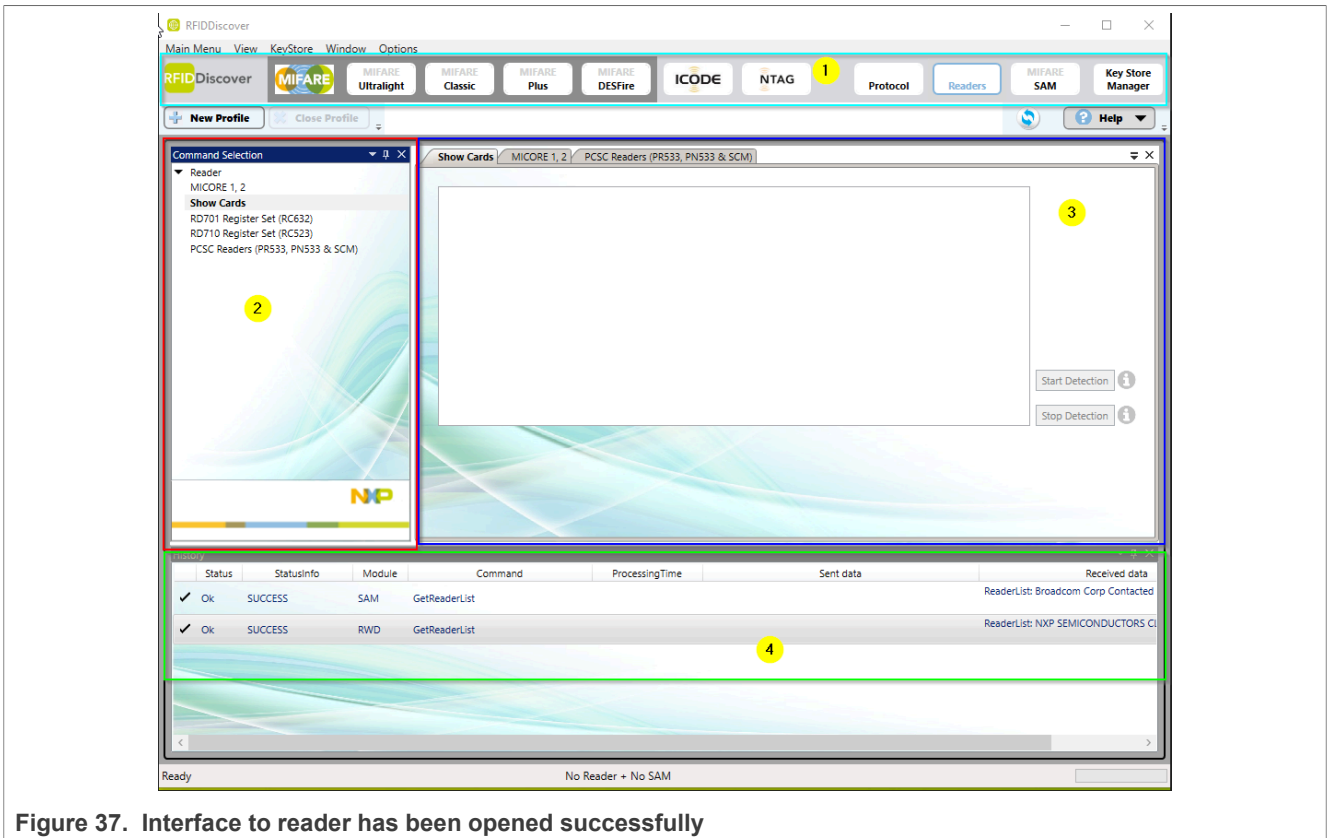

Figure 37. Interface to reader has been opened successfully
Therefore, the user interface is divided into functional blocks which are shown in different tabs in Figure 37 (1).
At the bottom (4) Figure 37 shows the history field where all the operations are displayed. For a more detailed view on the sent data and received data, a switch to the log window is possible. Both fields can be cleared, or can be stored in a text file.